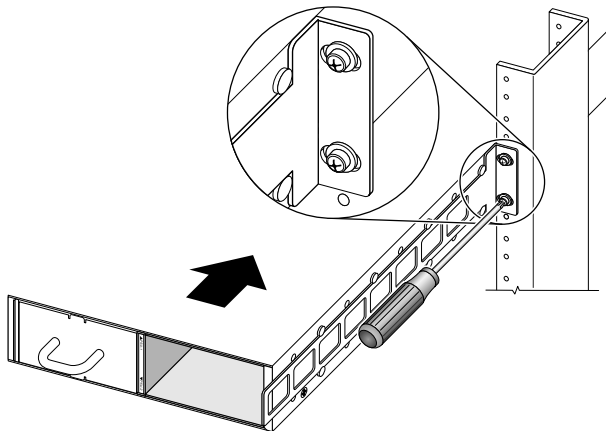

Figure 249: Fastening the Rear Mounting Brackets
- b. Securely tighten the rack mounting screws, as shown in Figure 249.